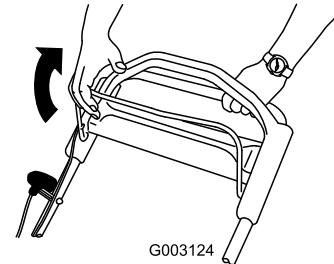

Figure 16
2. Pull the blade control bar to the handle (Figure 16).